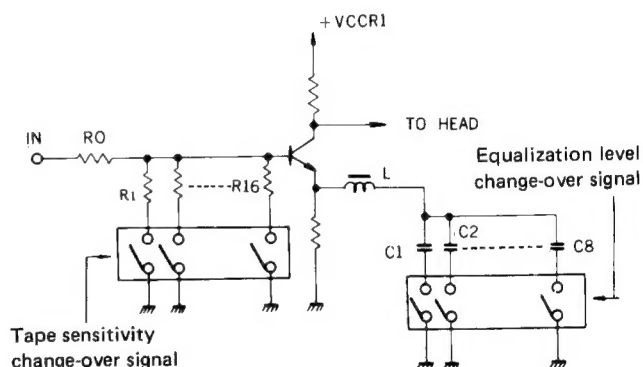

Fig. 8
- 2. Setting of equalization level and tape sensitivity** Fig. 8 represents the recording amplifier section employed in the KD-A66.